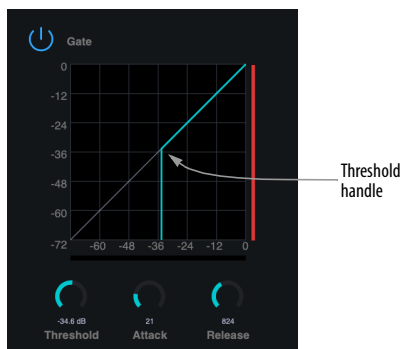

Figure 6-1: The Gate.
Mic/line/inst channels 1-2 (item 1 on page 34) provide a *Gate* (Figure 6-1).